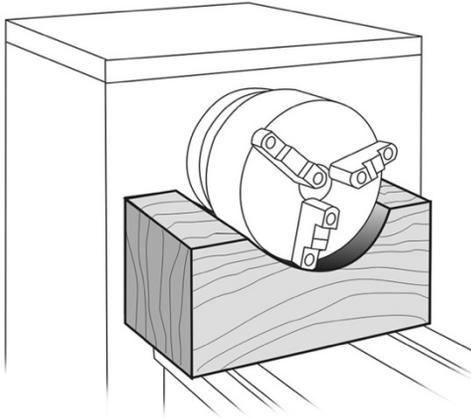

Figure 7-4: Chuck Cradle
**Note:** Before removing the chuck from the spindle, place a way board across the bedways under the chuck to prevent damage to the bedways should the chuck fall from your hands. Alternatively, many users make a wood chuck cradle that sits atop the ways and accepts the chuck's specific diameter, making installation and removal easier. Figure 7-4 shows an example.